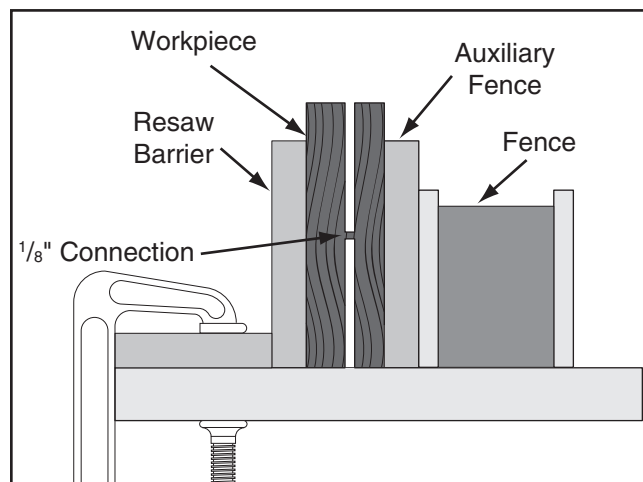

Figure 66. Ideal completed resaw cut.
7. Raise the blade approximately an inch, or close to half the height of the workpiece (**Figure 66**), whichever is less.
10. Repeat **Steps 7–9** until the blade is close to half of the height of the board to be resawn. The ideal completed resaw cut will leave an $\frac{1}{8}$ " connection when the resawing is complete, as shown in **Figure 66**. Leaving an $\frac{1}{8}$ " connection will reduce the risk of kickback.